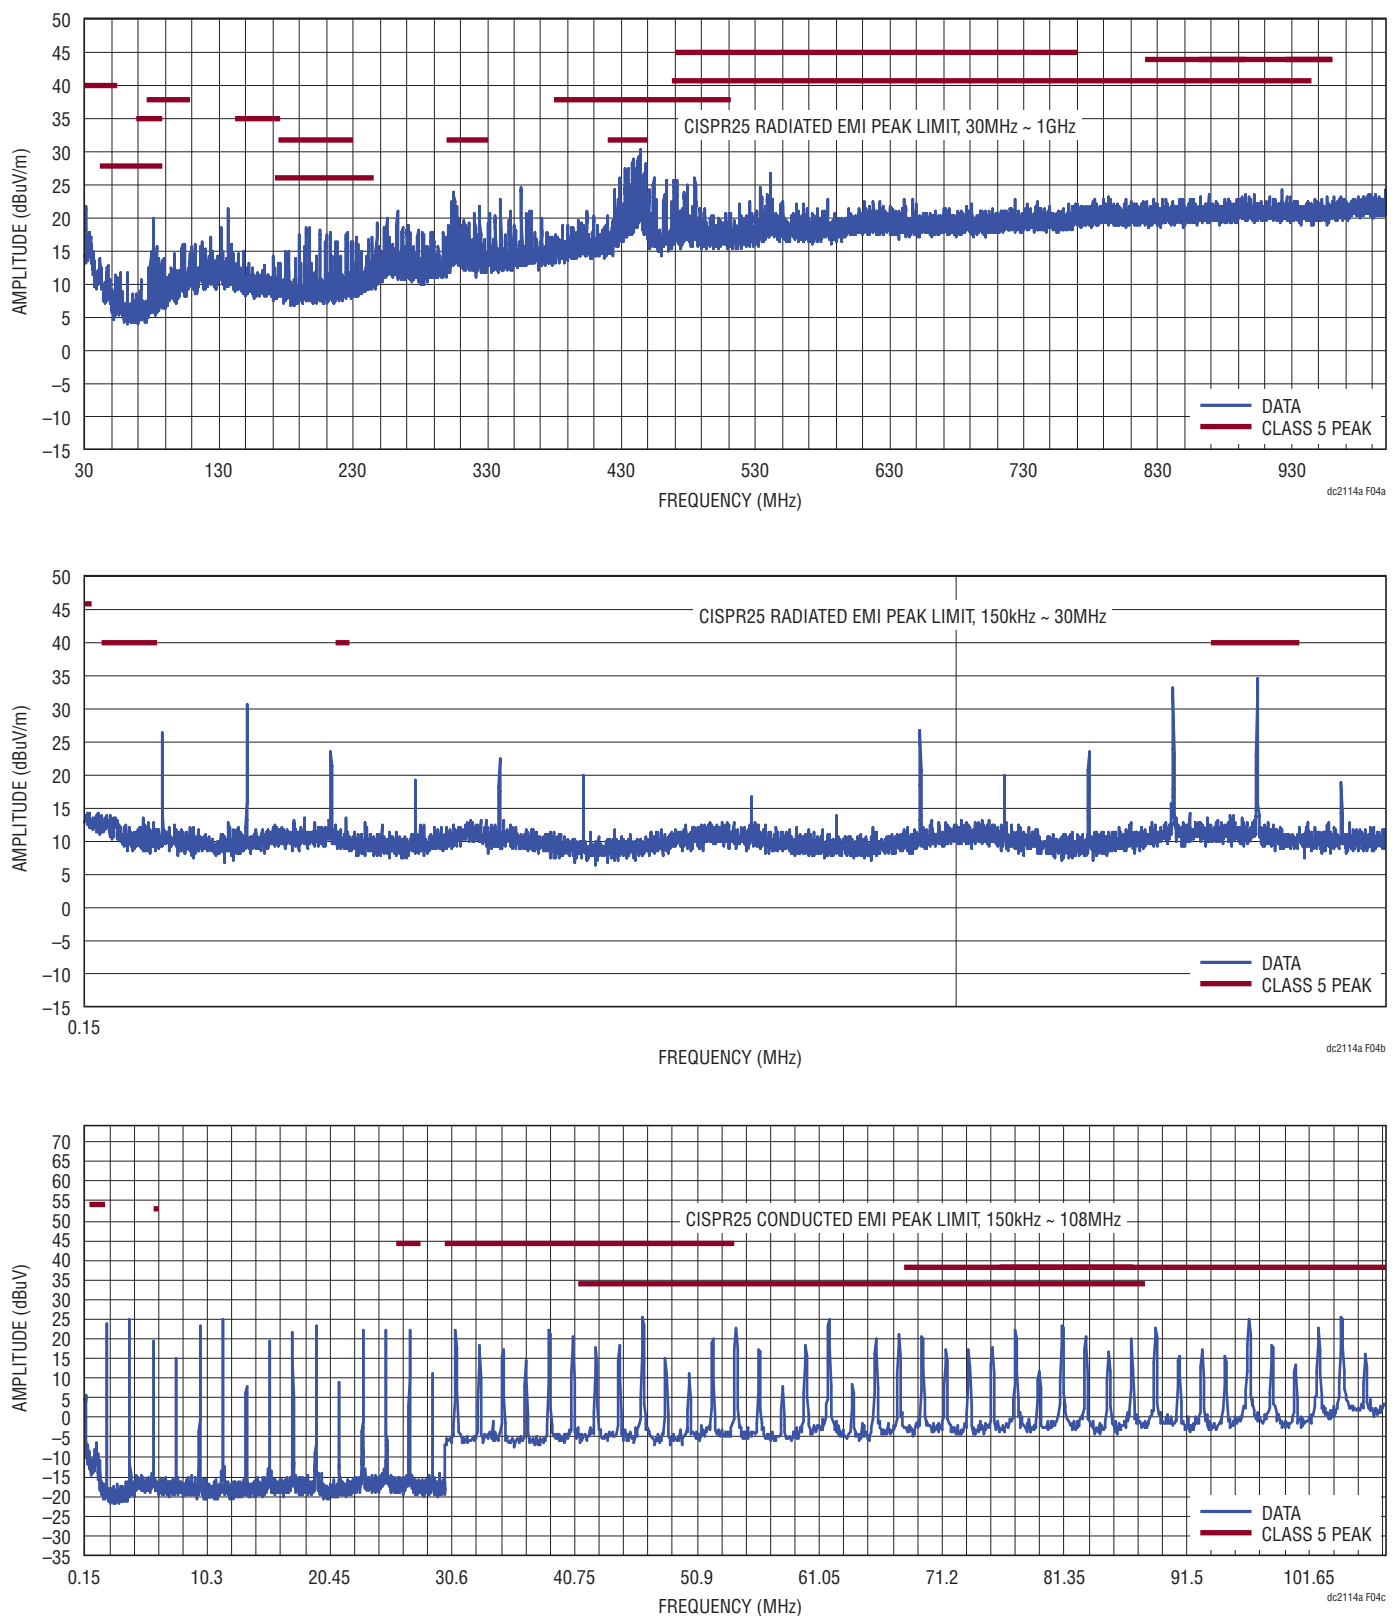

Figure 4. DC2114A Conducted and Radiated Peak EMI - Passes CISPR25-Class 5 Limits. Condition: $V_{IN} = 14V$, $I_{OUT1,2,3} = 1A$, $f_{SW} = 2MHz$
The demo board has an EMI filter installed on the bottom layer. The conducted and radiated EMI performance of the board is shown on Figure 4 with 1A load at each of the buck outputs at nominal input 14V. It shows the circuit passes the CISPR 25 Class 5, Peak Limit.
6. The EMI filter is assembled on the bottom layer of the demo circuit. Connect the EMI test facility to the terminals of VEMI+ and VEMI– with very short wires. Connect proper resistor loads to the output terminals of the demo circuit with very short wires. Figure 4 shows the demo circuit 2114A passes the conducted and radiated EMI standard CISPR 25 Class 5 Peak Limit.